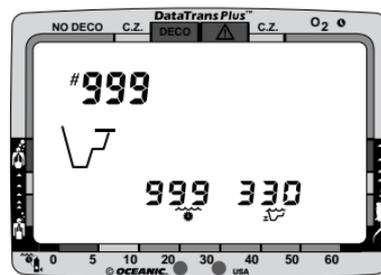

Fig. 81 - History Mode
3. Press the Advance/Left button once to view the second screen (Fig. 81) that shows the Decompression Dive icon and the total number of Decompression dives. Total elapsed dive time and maximum depth will remain